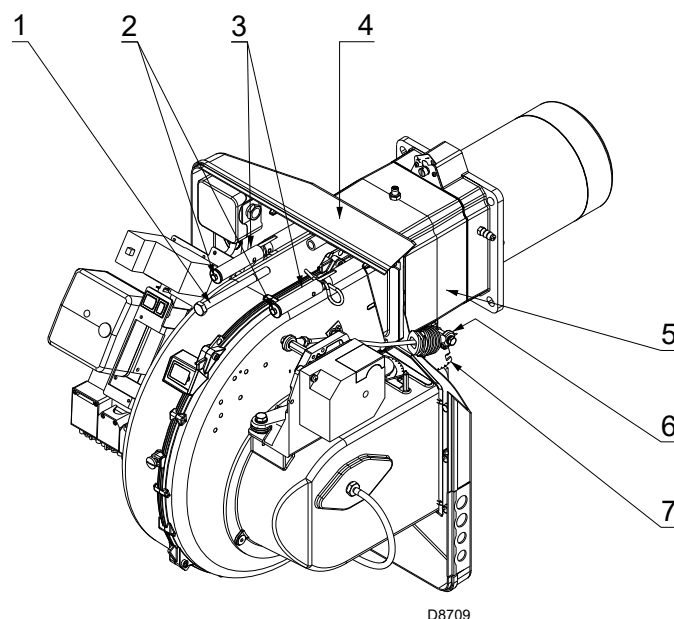

Fig. 15
Once the combustion head adjustment is completed Fig. 15:
- reassemble the burner 4) on the slide bars 3) at about 100 mm from the pipe coupling 5) - burner in the position shown in Fig. 15;
- insert the probe and electrode cables, then slide the burner as far as the pipe coupling - burner in the position shown in Fig. 15;